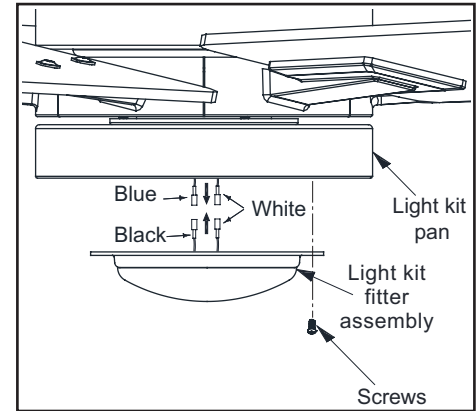

Figure 17
3. Remove one screw from the light kit pan, and loosen but do not remove the other two screws. Connect the wires from the light kit fitter assembly to the wires from the fan motor assembly by connecting the molded adaptor plugs together. Carefully tuck all wires and splices into the switch cap. (Figure 17)
4. Push the light kit fitter assembly up so that the two loosened screw heads fit into the keyhole slots. Turn the light kit fitter assembly clockwise, tighten the screws. Re-install the screw that was removed in step 3 and tighten firmly. (Figure 17)